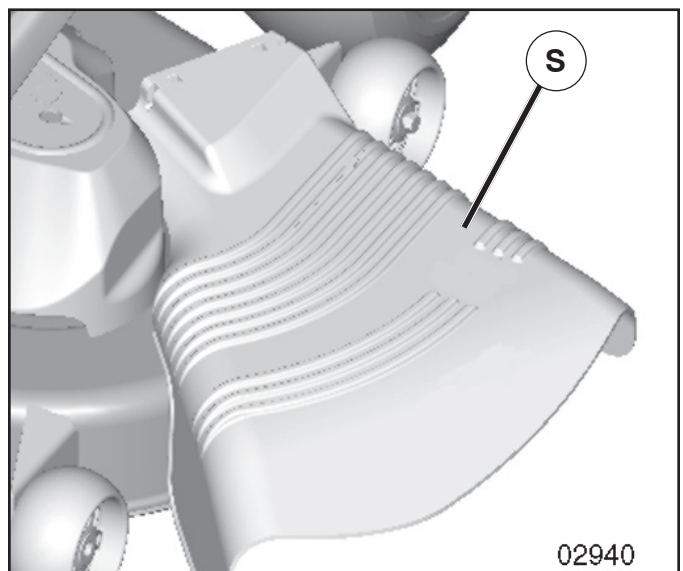

Fig. 10
CAUTION: Do not operate the mower without either the entire grass catcher, on mowers so equipped, or the deflector shield (S) in place. (See Fig. 10)
CAUTION: Do not operate the mower without either the entire grass catcher, on mowers so equipped, or the deflector shield (S) in place (See Fig. 10).